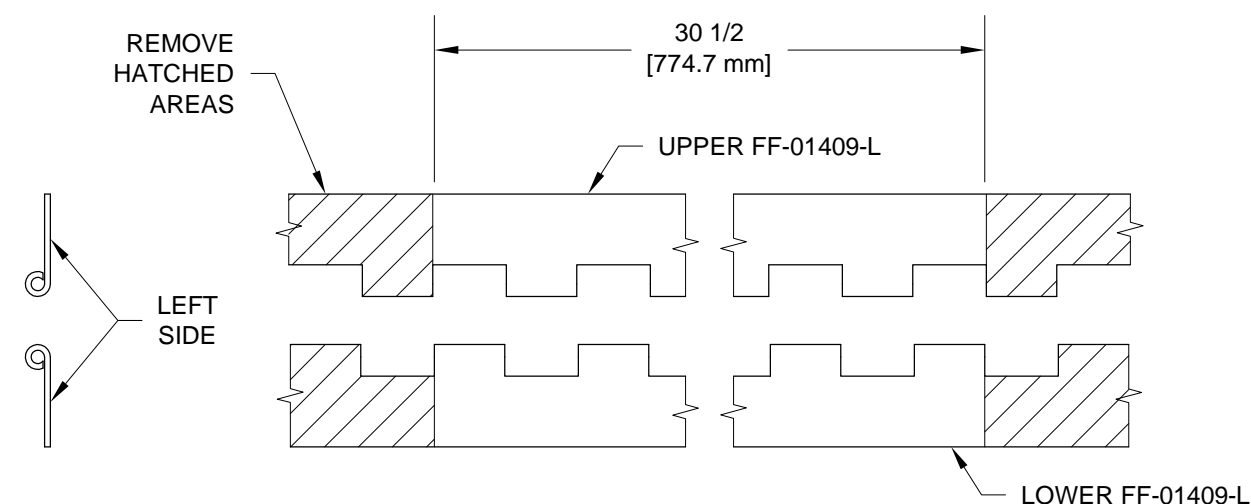

FIGURE 3: FF-01409-L
Step 6: Fabricate the FF-01409-L & -R Cowl Attach Piano Hinges from the AN257-P3 hinge halves using the dimensions shown in Figure 3. At this point, the FF-01409-L & -R Cowl Attach Piano Hinges are identical.